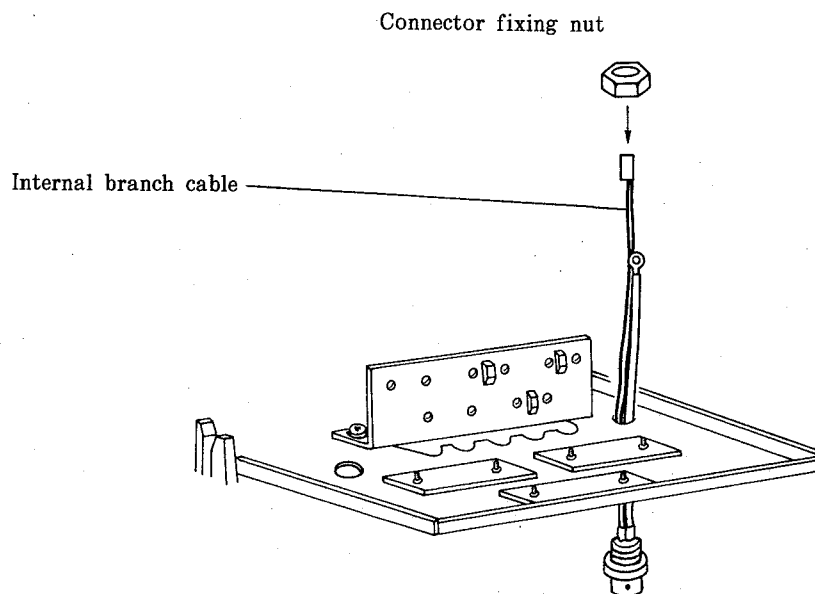

Fig.28
- (6) Fix the internal branch cable connector to the cable fixing plate as follows: (See Fig.28.)